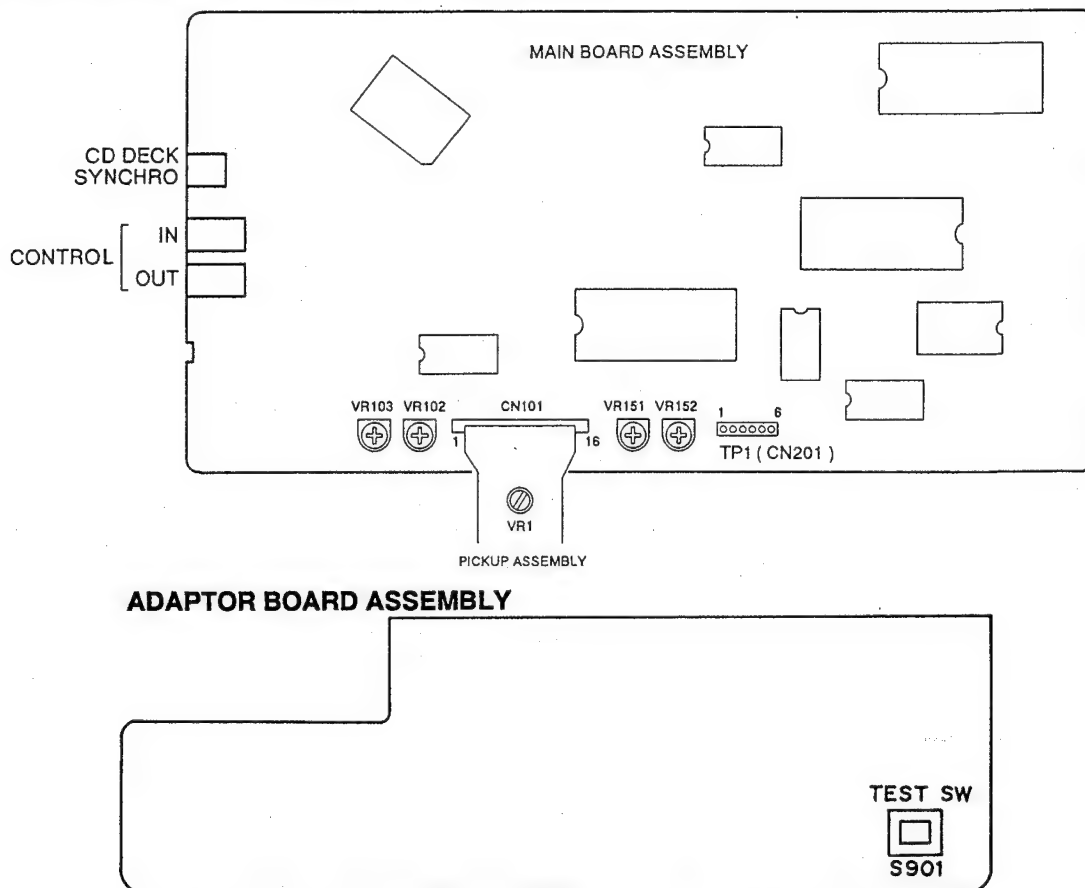

Figure 1 Adjustment Locations
2. Press the TEST mode switch (S901). (See Figure 1.)